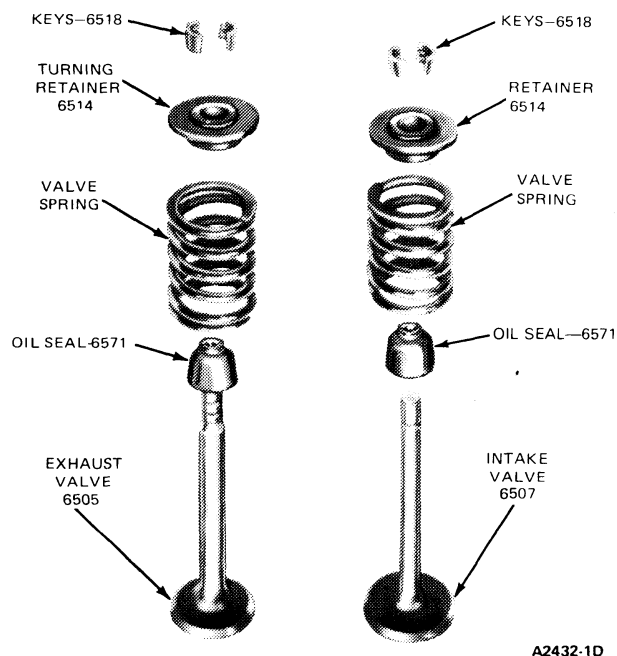

FIG. 49 Valve Assembly
6. Remove the spring retainer, spring, stem seal and valve (Fig. 49). Discard the valve stem seals. Identify all valve parts.
3. Oil and install a new stem valve oil seal (Fig. 49).
5. Position the spring retainer on all valve springs. Make sure that a positive rotating retainer is used on all of the exhaust valves (Fig. 49).